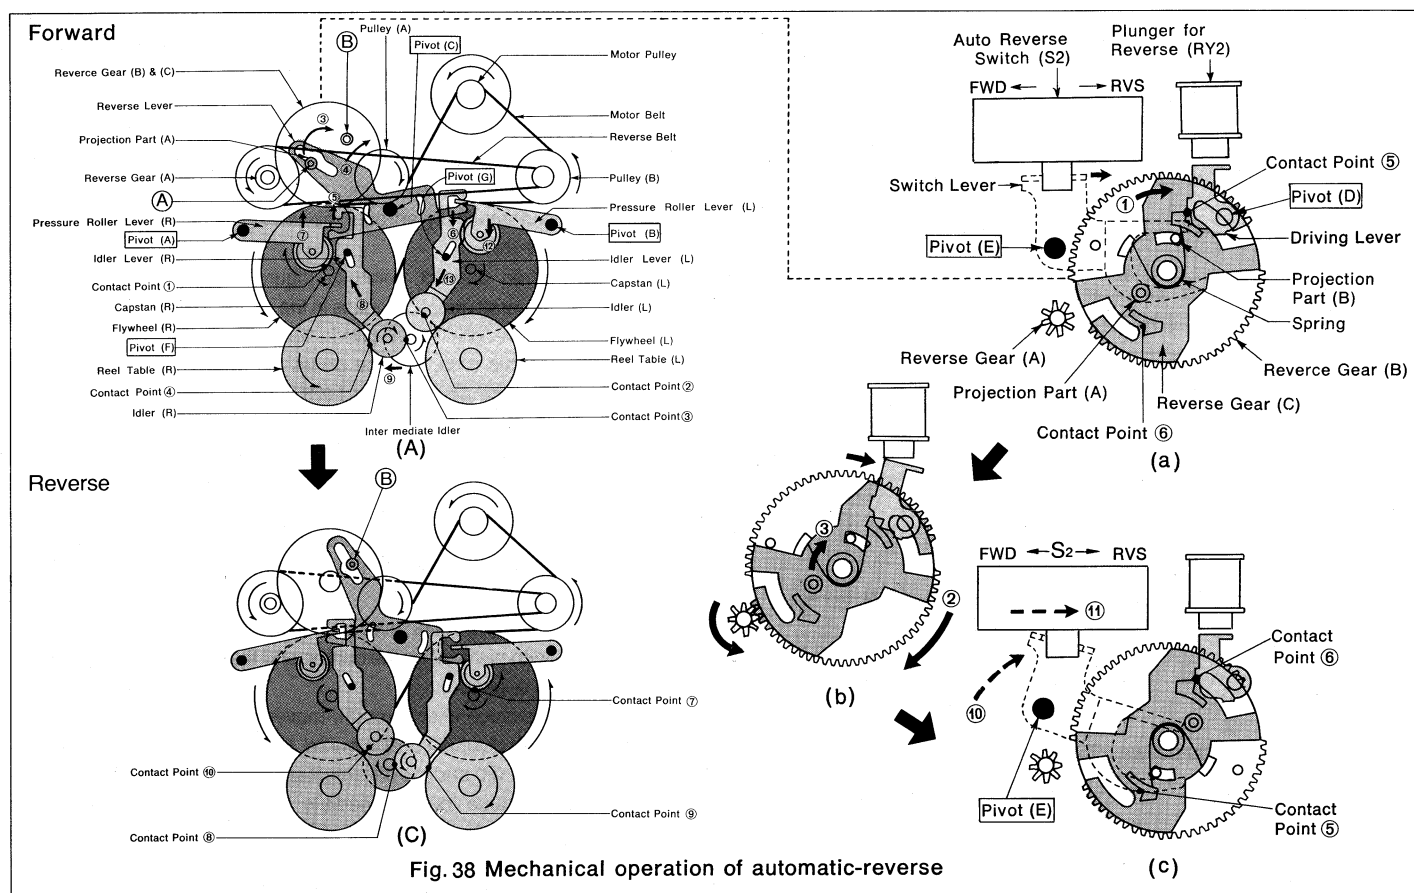
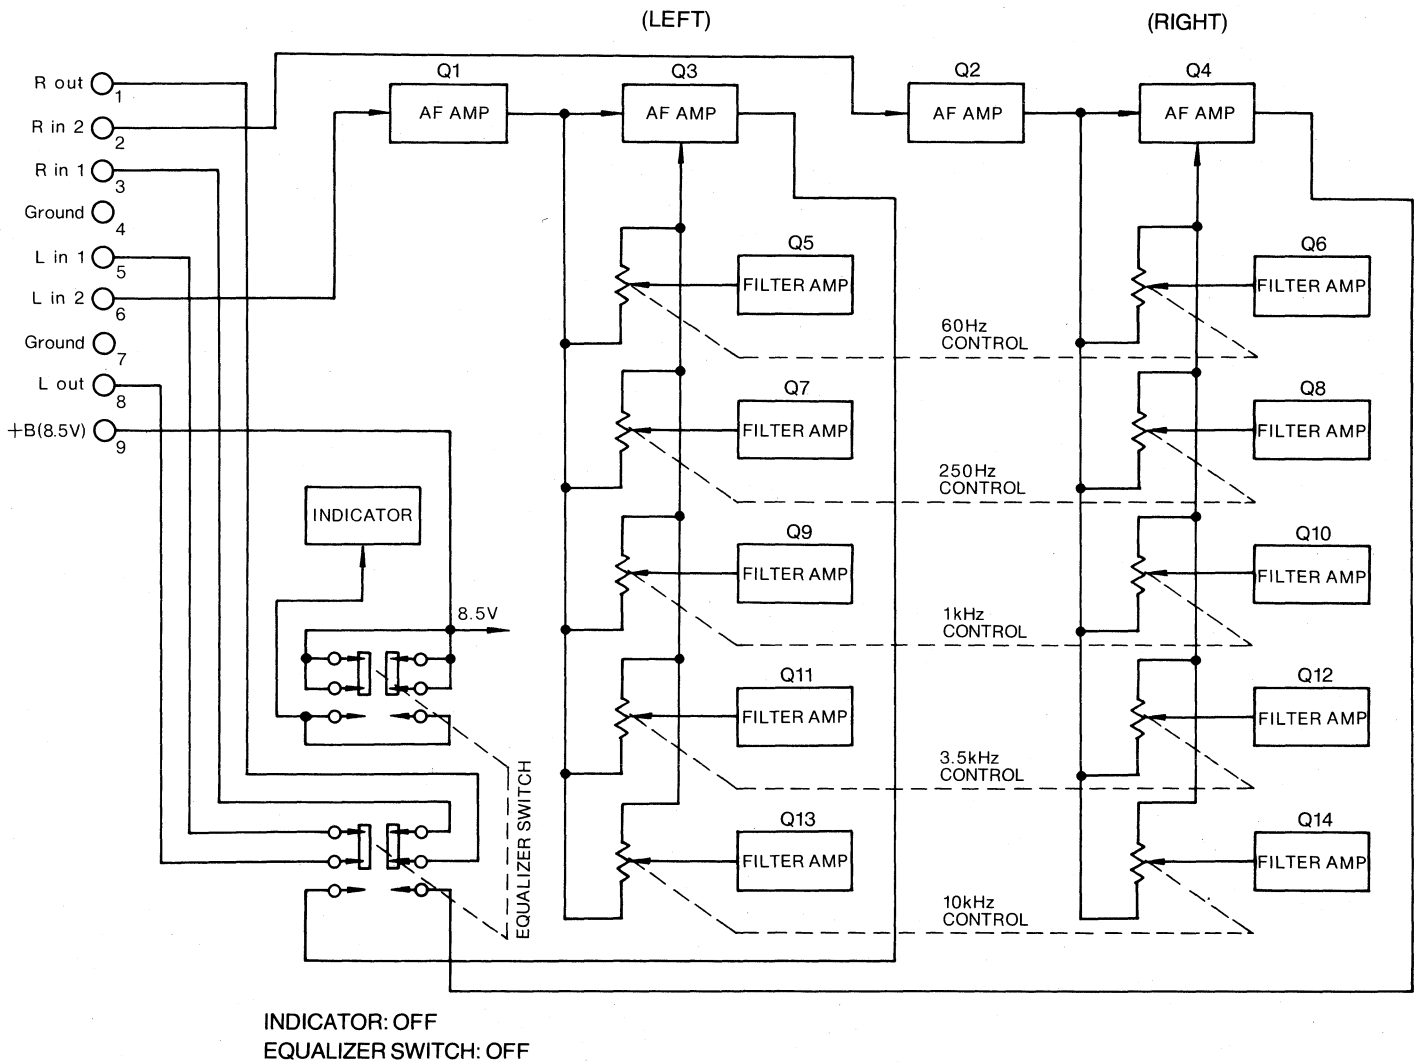

Fig. 38 Mechanical operation of automatic-reverse
Fig. 39 Block Diagram-Model RM-E610
[Refer to Figures 38-(A) and (a).]
1. The tape is moved in the forward direction by the pressure roller lever (R) and capstan (R), and wound on reel table (R).
2. The rotation force from the motor to the pressure roller lever (R) and reel table (R) are as follows.
3. In addition, reverse gear (A) is rotated at this time by the reverse belt, but, because reverse gear (C) is not meshed with reverse gear (A), there is no effect on forward playback. [As shown in figure 38-(a), meshing of reverse gears (A) and (C) is prevented by the driving lever at contact point ⑤.]
1. As described before, when the tape comes to its end, control is electronic and the plunger for reverse automatically attracts the driving lever, as shown in figure 38-(b).
2. Then contact point ⑤ [figure 39-(a)] is released, and reverse gear (C) moves in the direction of arrow ①, resulting in the condition shown in figure 38-(b).
3. At this time, reverse gears (A) and (C) are meshed, and reverse gears (B) and (C) start rotating in the direction of arrow ②.
5. As a result, the reverse lever moves in the direction of arrows ④, ⑤ and ⑥, using the pivot (C) as a fulcrum, and projection part (A) moves from position ① to ② [figure 38-(A) and (B)].
6. Pressure roller lever (R) moves in the direction of arrow ⑦, with pivot (A) as the center, and the contact with capstan (R) is released.
7. Because idler lever (R) moves in the direction of arrow ⑧, with pivot (F) as the guide, the contact [contact point ③] of idler (R) and the intermediate idler shaft is released.
8. Because the intermediate idler moves in the direction of arrow ⑨, the contact of flywheel (L) and the intermediate idler [contact point ②] is released.
10. When projection part (A) of reverse gear (B) comes to position ② from position ①, as shown in figure 38-(B):
* Reverse gear (C) is again locked by the driving gear at contact point ⑥, at this time the meshing of reverse gears (A) and (C) are released. (At this time, one cycle of the reverse operation is completed.)
* When the switch lever rotates in the direction of arrow ⑩, with pivot (E) as the center, auto-reverse switch (S2) changes from the forward to the reverse position.
11. When the reverse lever, with pivot (C) as the center, moves in the direction of arrow ⑥ [figure 8-(A)], pressure roller lever (L), with pivot (B) as the center, moves in the direction of arrow ⑫, and subsequently, as shown in figure 38-(C), makes contact with capstan (L) at contact point ⑦.
12. In figure 38-(A), because the idler lever moves in the direction indicated by arrow ⑬, with pivot (G) as its guide idler (L) makes contact with the intermediate idler shaft at contact point (8) in figure 38-(C).
13. Simultaneously, idler (L) makes contact with reel table (L) at contact point ⑨ [figure 38-(C)].
14. The intermediate idler moves in the direction of arrow ⑨ in figure 8-(A) as a result of its contact with idler (L), and subsequently, as shown in figure 38-(C), it makes contact with flywheel (R) at contact point (10).
15. Upon completion of all the operations described above, the tape will begin to be sent by pressure roller lever (L) and capstan (L), and the rotation power from flywheel (R) is transmitted to reel table (L) through contact points ⑩, ⑧ and ⑨, and reel table (L) begins to wind up the tape. In other words, the reverse operation begins.
Figure 39 shows the block diagram of the model RM-610. It is composed of two-stage AF amplifiers (left and right channels) and five filter amplifiers for each channel, one for control of each frequency point.